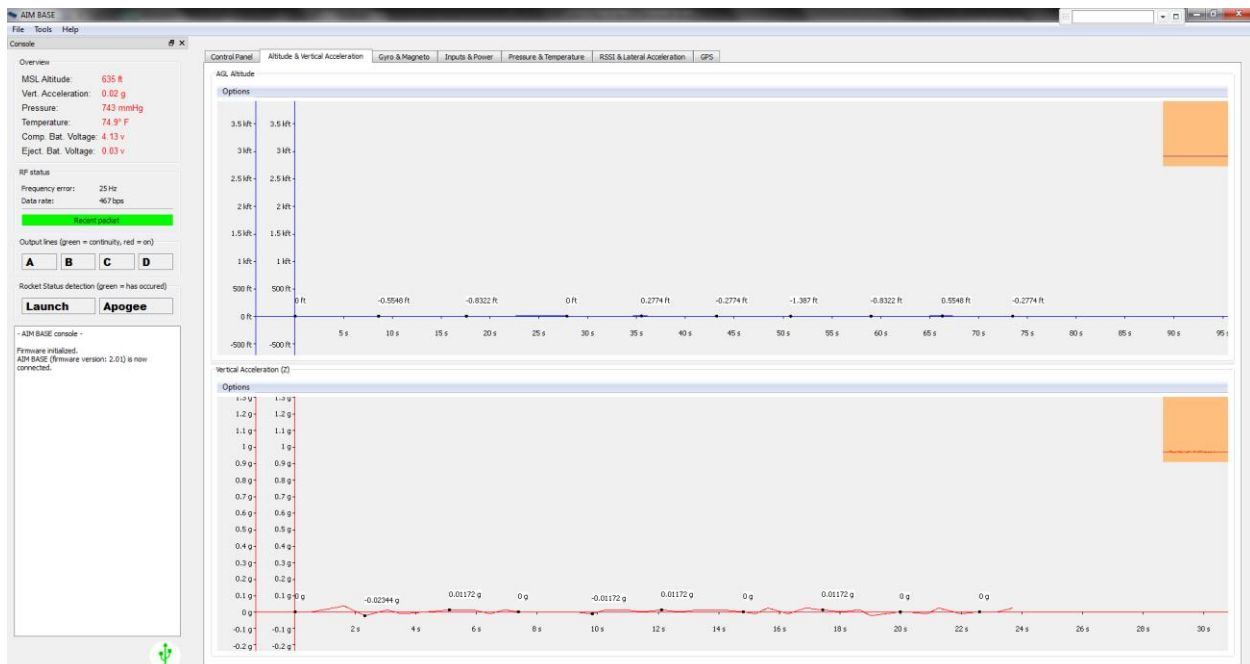

Figure 15: BASE Altitude & Vertical Acceleration
The Vertical Acceleration (Z) graph only depicts the Z axis acceleration (see Figure 15).